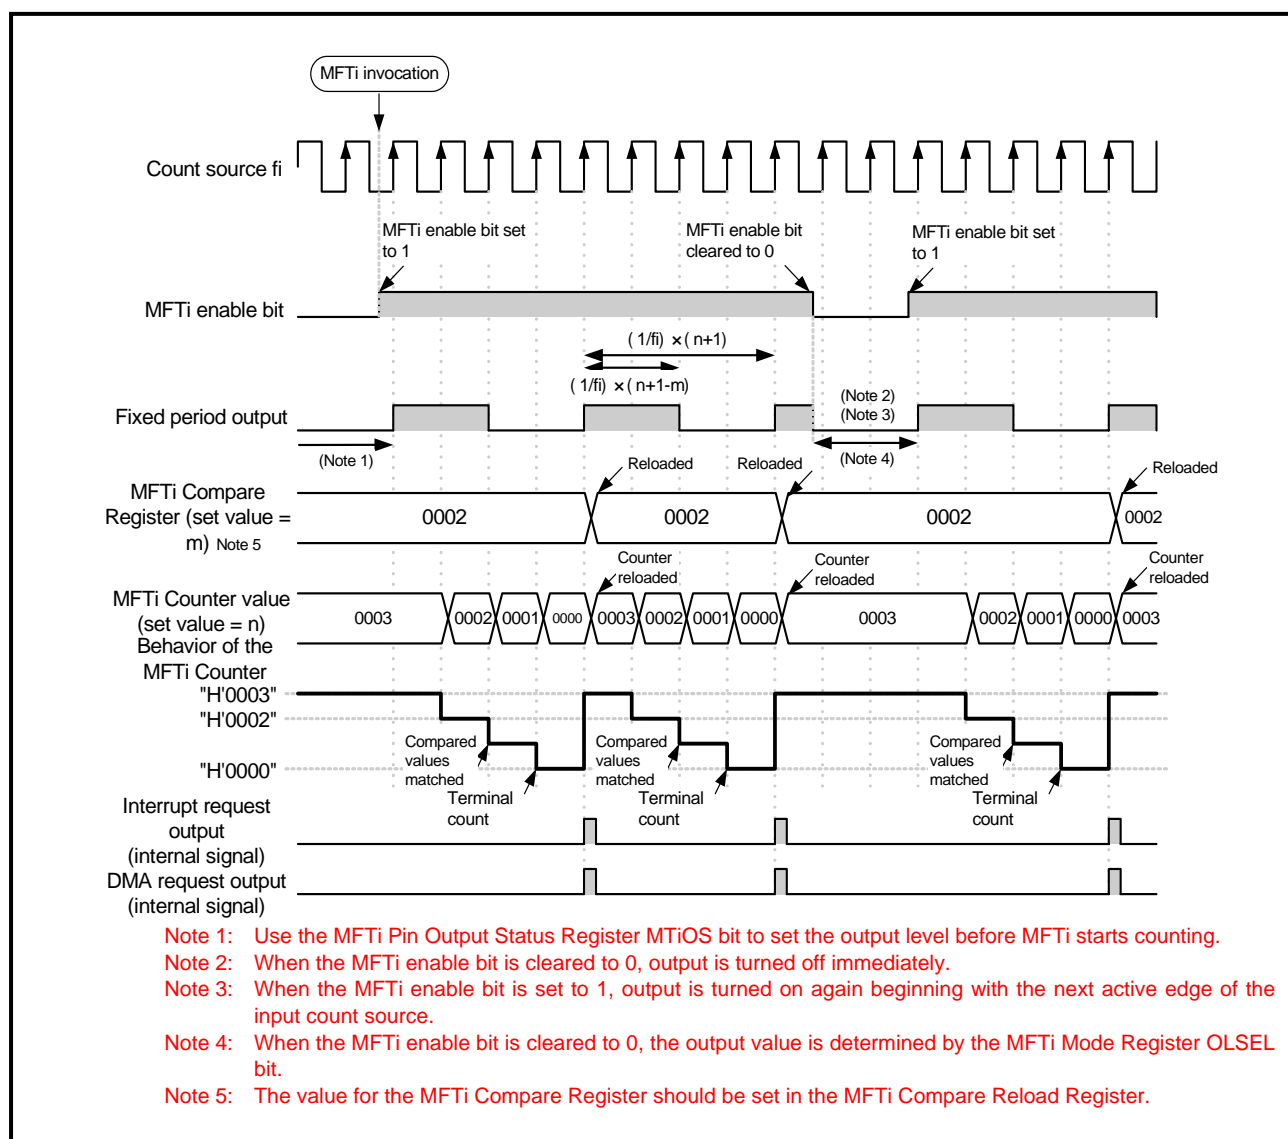
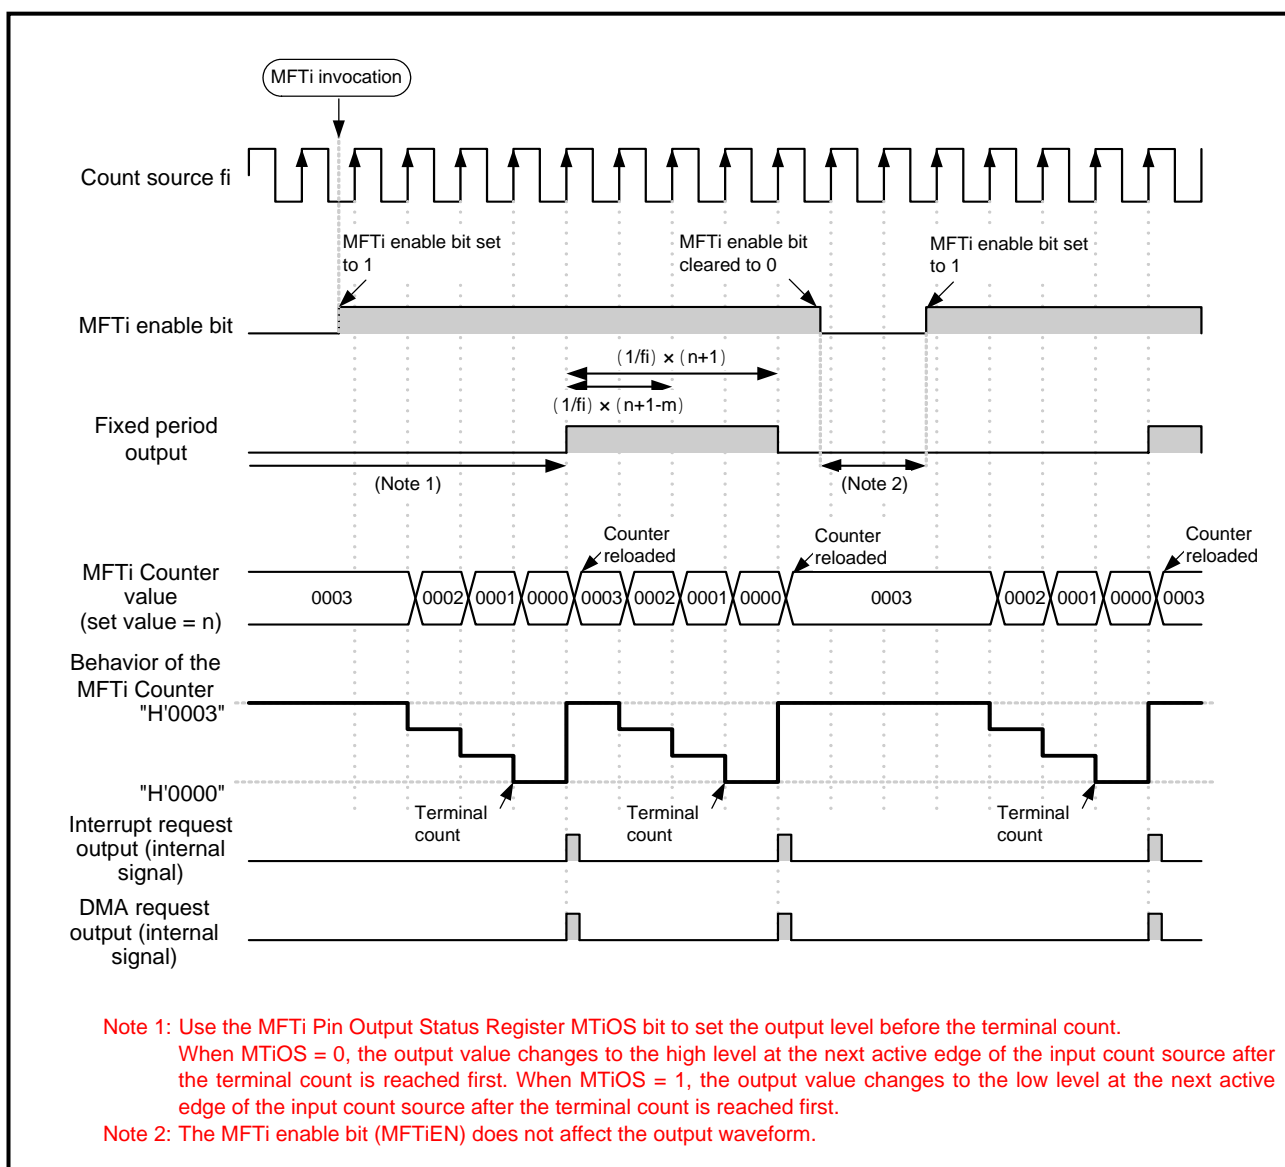

Figure 12.3.4 Example Operation Timing of MFTi when Comparison Waveform Output is Selected
Figure 12.3.5 Example Operation Timing of MFTi when Toggle Waveform Output is Selected
(3) Operation of MFTi as the fixed period timer
Figure 12.3.4 and Figure 12.3.5 show example operation timings of MFTi when acting as the fixed period timer that was set in (2).
Shown in Figure 12.3.4 and Figure 12.3.5 are examples for the case when comparison waveform output is selected by the timer output select bits (TOSEL = '01') and when toggle waveform output is selected (TOSEL = '10'), respectively.